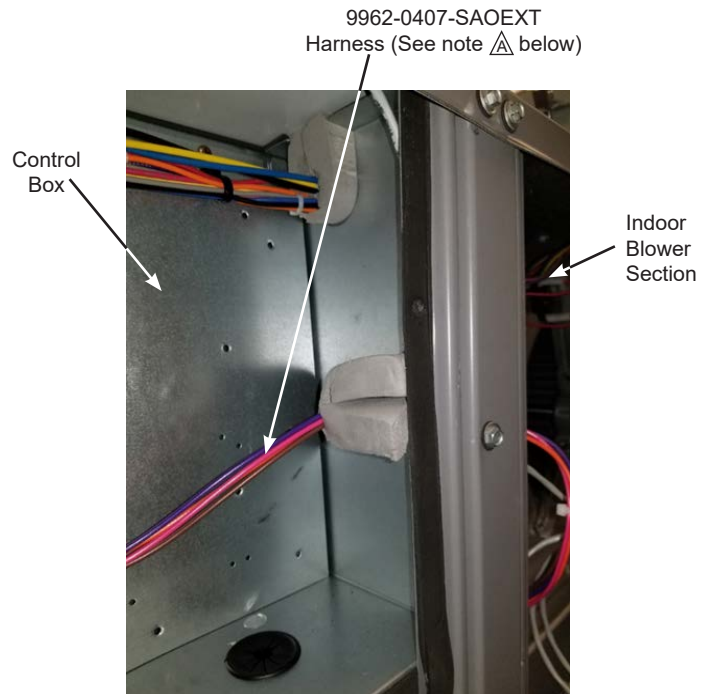

Figure 14 – Route 9962-0407-SAOEXT Harness to Indoor Blower Section (See note below)
Step 18: Route the 4-wire 9962-0407-SAOEXT harness through the divider between the control box and the indoor blower section. See Figure 14. Important - See note below.